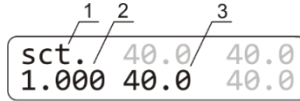

Figure 4. Display in calibration mode: 1. Calibration mode indicator; 2. Calibration coefficient; 3. Temperature with current coefficient
- 6.2 To change the calibration coefficient, hold the **↔ RUN/STOP** key pressed for more than 8 s to activate calibration mode, as shown on figure 4).
-  **Note.** Values marked in grey on figures 4 and 5 are not used in calibration and are meant for service engineers.
- 6.3 **Restoring factory settings.** Set 1.000 value using the **▲** and **▼ T, °C** keys as shown on fig. 4/1 to restore the factory settings. Press the **▶/■ RUN/STOP** key once to save the changes and exit the calibration mode.
- 6.4.5 Hold the **↔ RUN/STOP** key pressed for more than 8 s to activate calibration mode (figure 4).